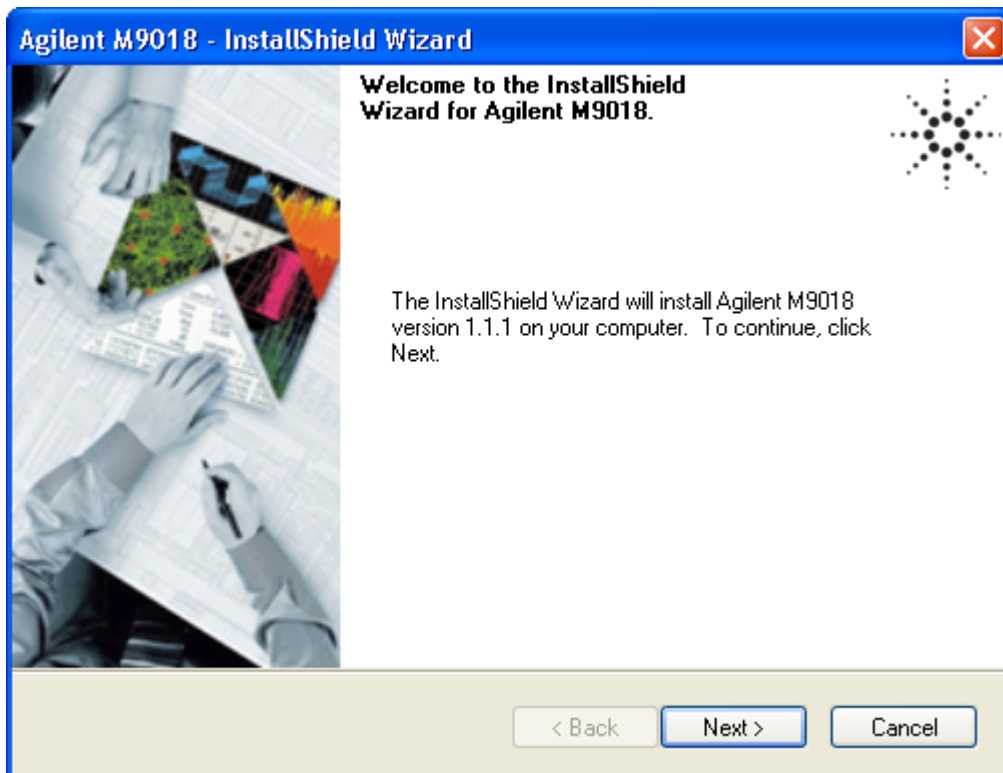

Figure 6 InstallShield Wizard dialog to install the M9018A software
- 2 Click the **Install M9018 Software** link, which will bring up the Agilent M9018A InstallShield Wizard. The first installation dialog is shown in Figure 6.